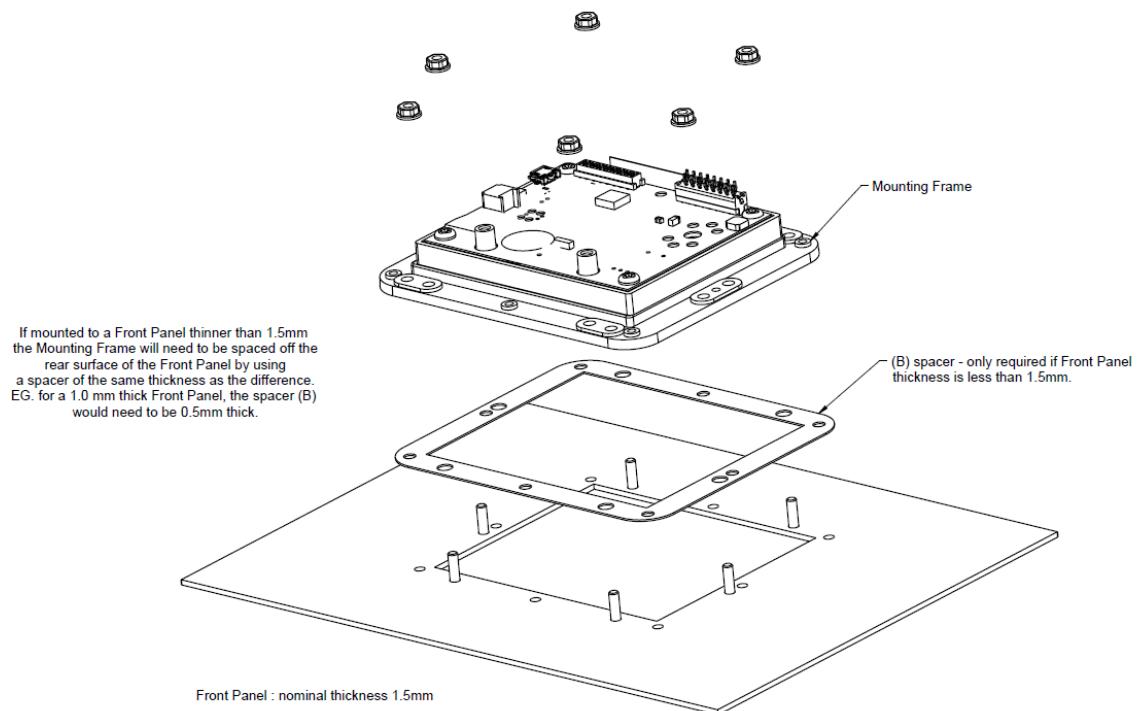

**Figure 4-3 Click Upload Button**
- Click the Upload button as shown in Fig 4.3. This will upload the FT801 sample to the VM801P.